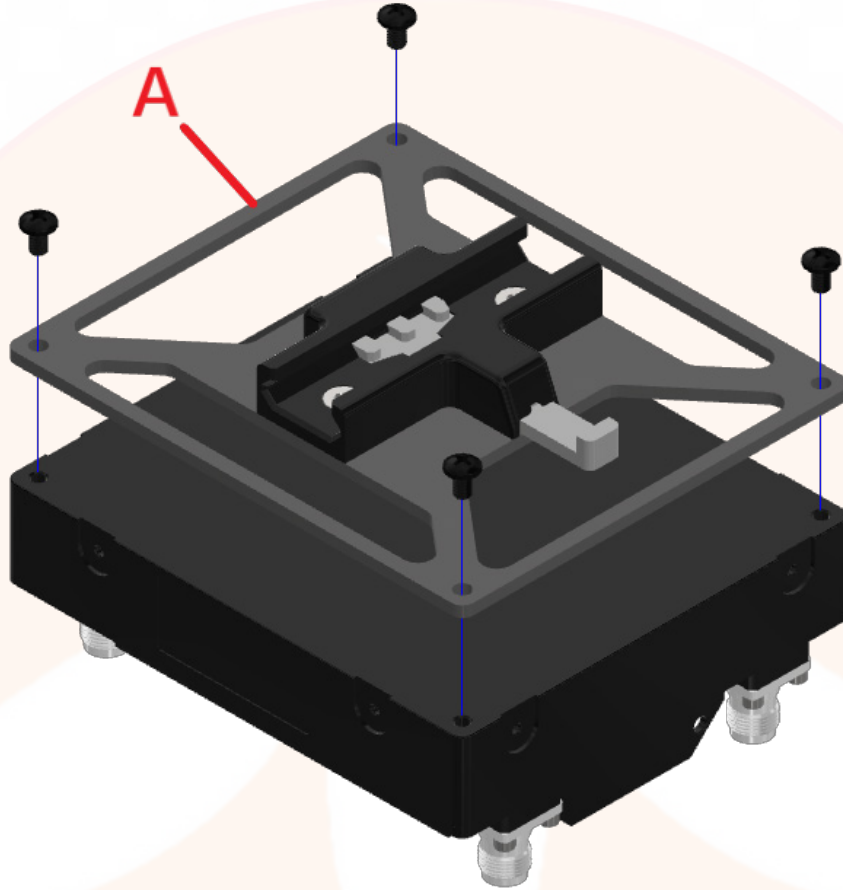

Figure 19: SC4400E Radio Plate
1. Attach the SC4400E Radio Plate (**Figure 19, A**), oriented as shown above, to the SC4400E radio using the provided screws (4x).